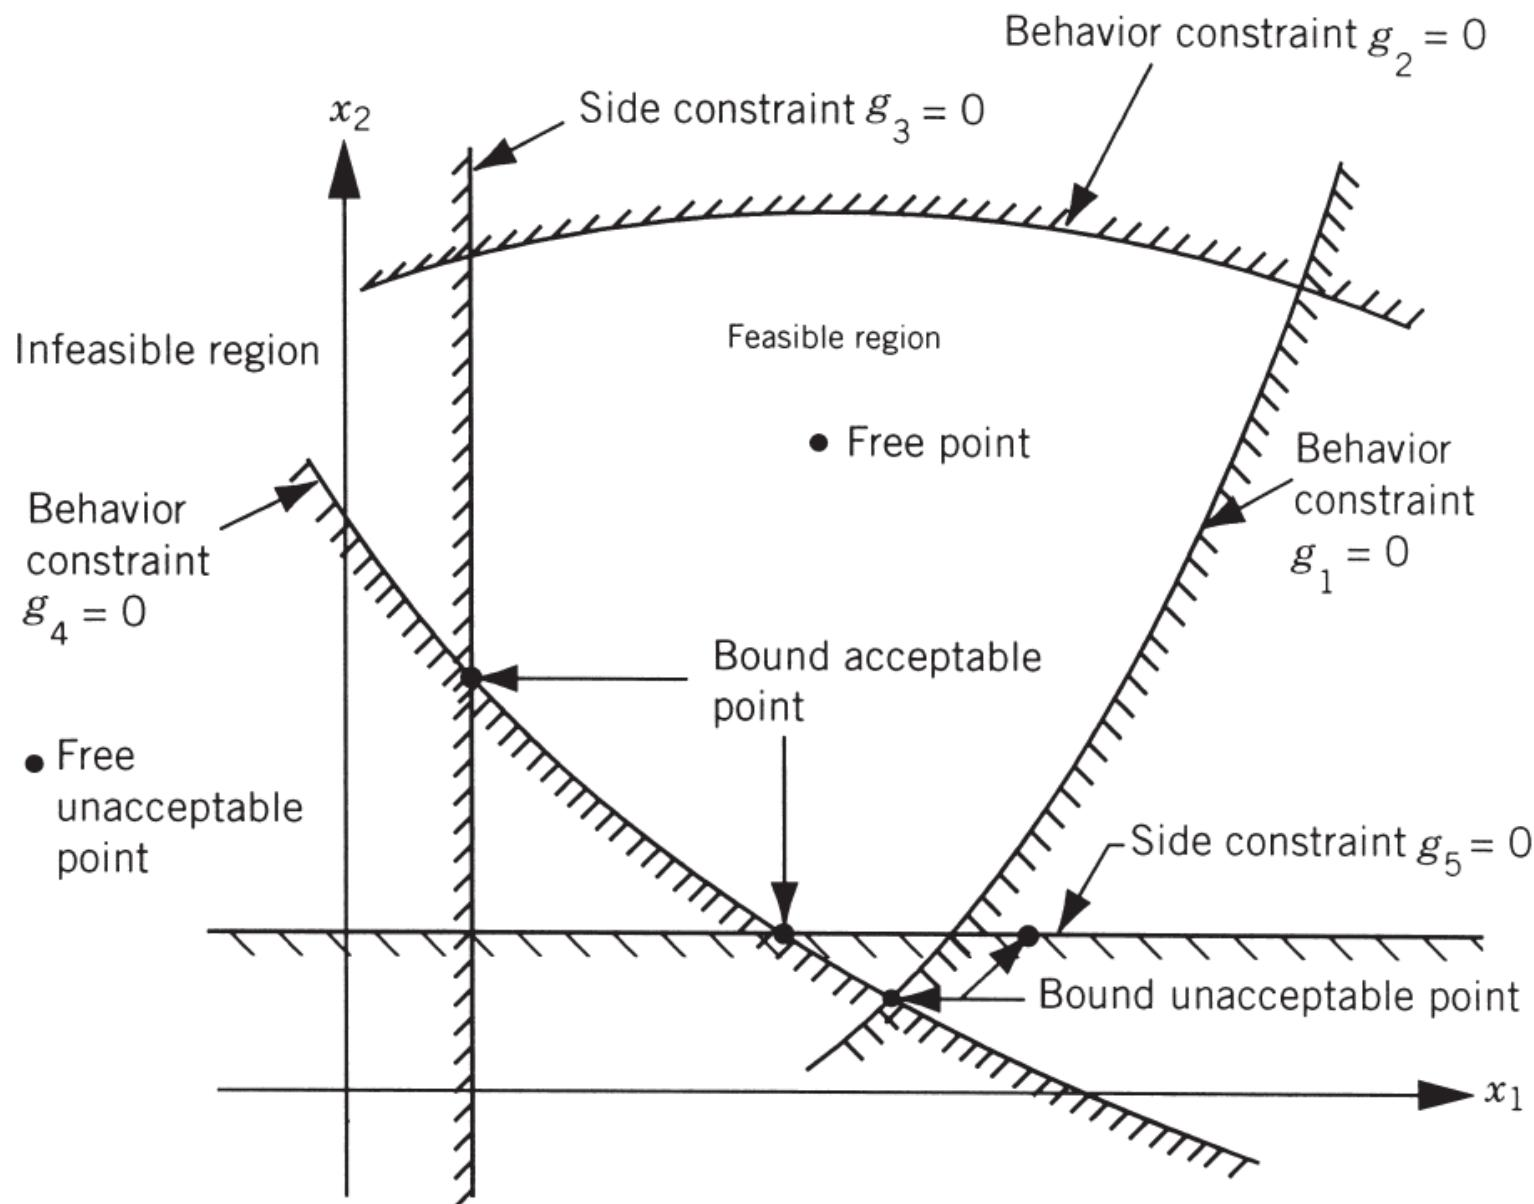

Figure 1.4 Constraint surfaces in a hypothetical two-dimensional design space.
- Figure 1.4 shows a hypothetical two-dimensional design space where the infeasible region is indicated by hatched lines.
All four types of points are shown in Fig. 1.4.
- All four types of points are shown in Fig. 1.4.**